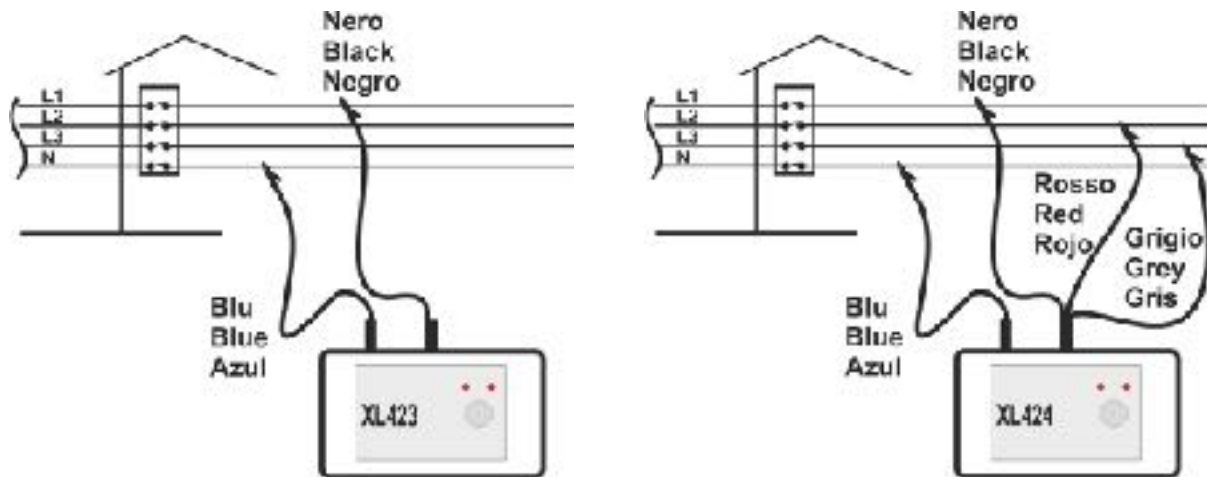

Fig. 3: Instrument's connection in three phase 4-wires system
3. Connecting alligator clips to the plant as indicated in Fig. 3.